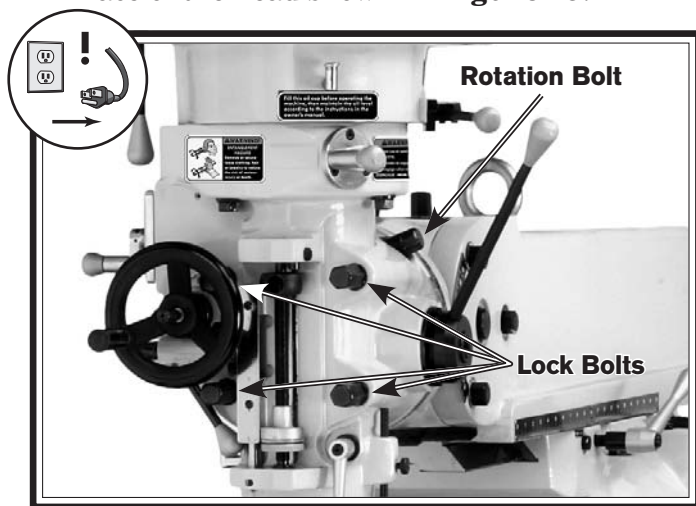

Figure 29. Head rotating controls.
2. Loosen the four rotation lock bolts on the face of the head shown in **Figure 29**.